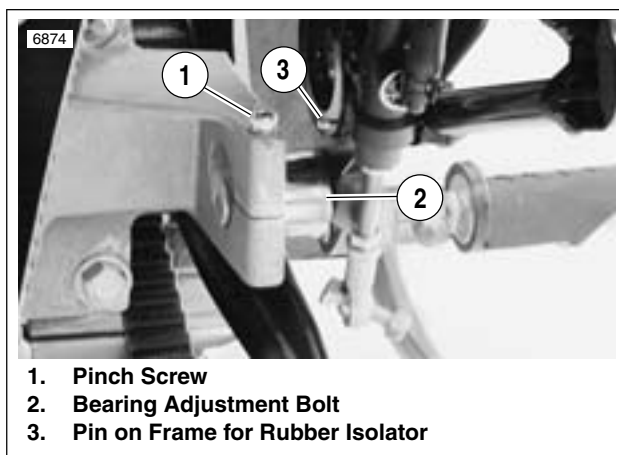

Figure 2-67. Swingarm Mount Block, Right Side
9. Using floor hoist, raise frame enough to remove both rubber isolators (2) from frame mounted pins.
10. Loosen swingarm pinch screw (10) on right side.
11. Remove threaded rod (5) from between bearing adjusting bolts (4, 8).
13. See Figure 2-67. Using floor hoist, raise frame while pushing down on swingarm. Frame must be raised until bearing adjustment bolts (2) clear pin on frame and can be removed.